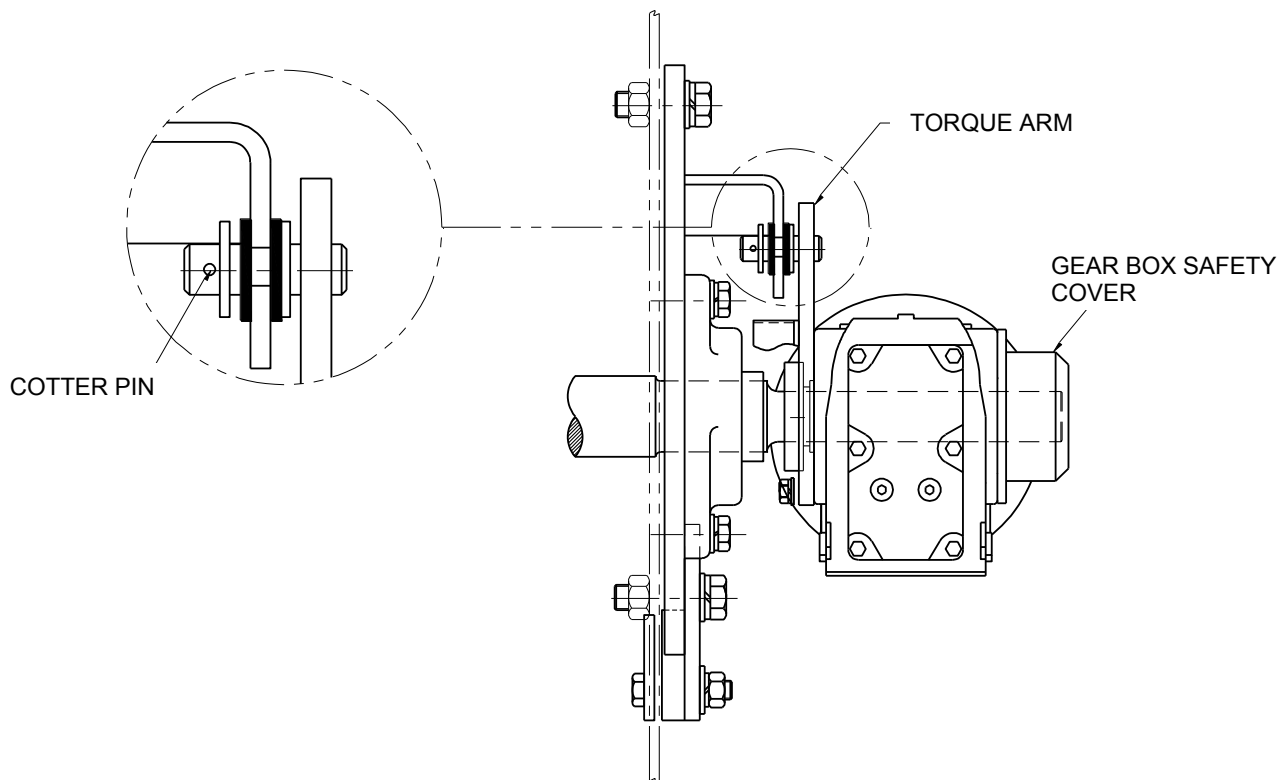

Figure 4-14. Removing the Brush Drive from the Aqua-Screen®
1. Remove the gear box safety cover and the M8 x 20 bolts from the exterior of the brush drive gear box. See figure 4-14.